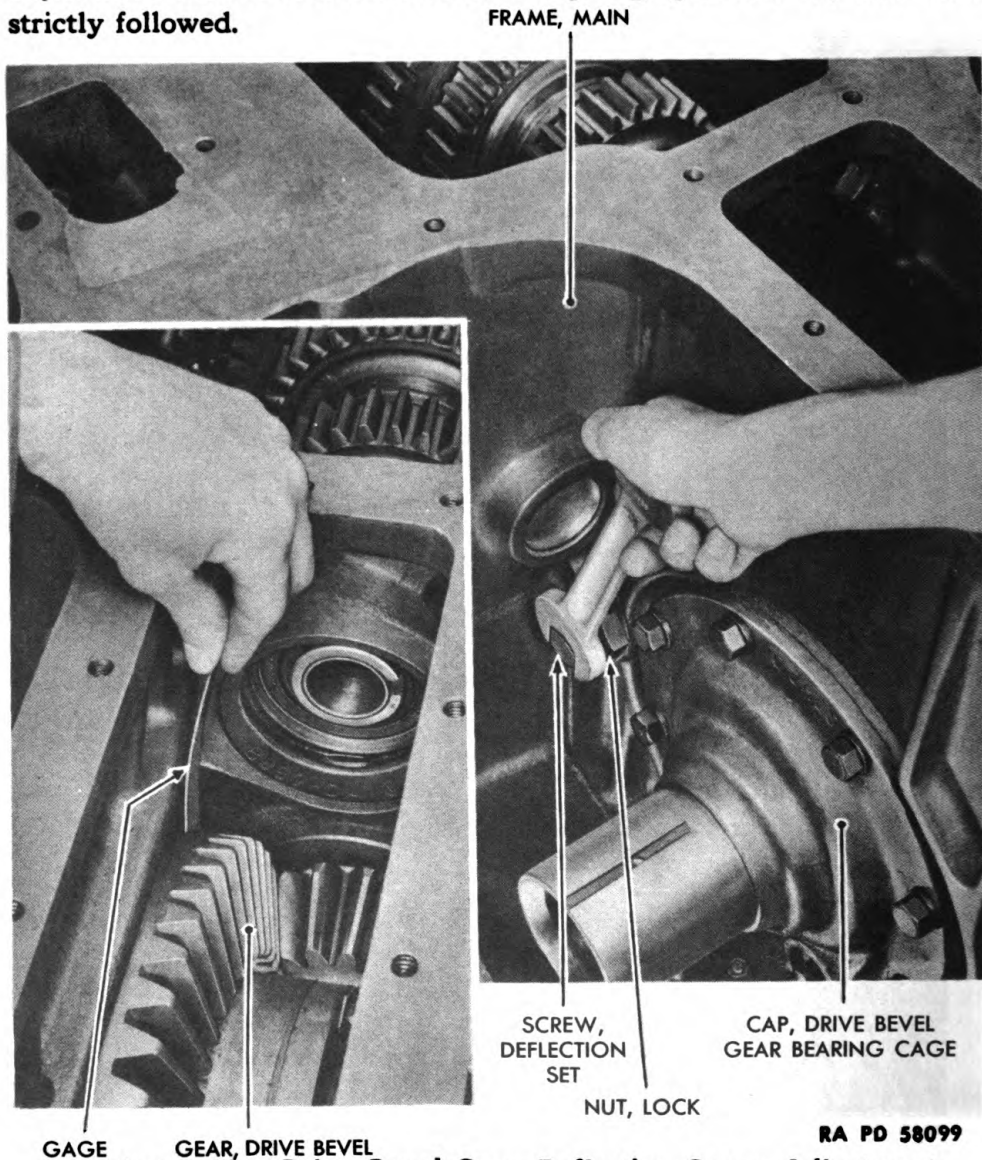

Figure 70 — Drive Bevel Gear Deflection Screw Adjustment
(5) ADJUST BEVEL GEAR DEFLECTION SCREW (fig. 70).